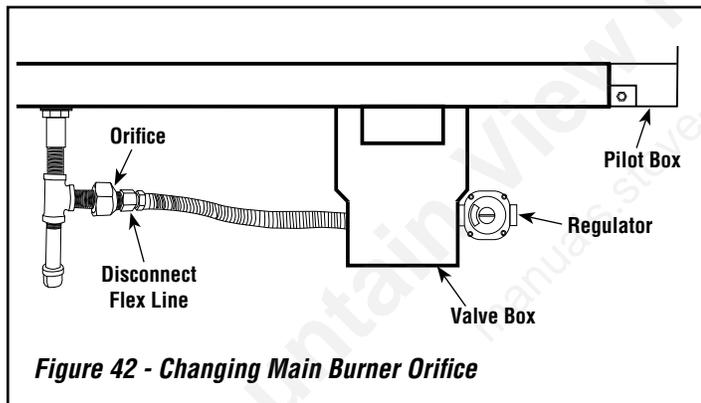

Figure 42 - Changing Main Burner Orifice
Step 4. Locate the gas regulator on the opposite side of the valve box. Using a regular size flat bladed screwdriver to remove the aluminum cap and washer from the regulator. See **Figure 42**.